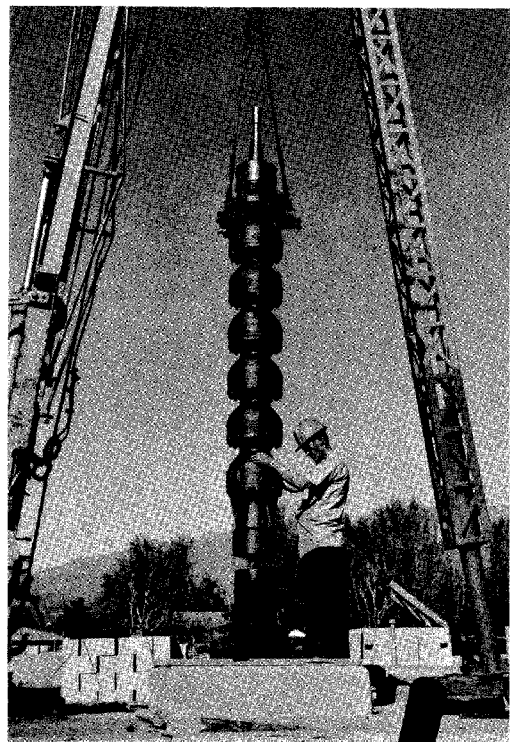
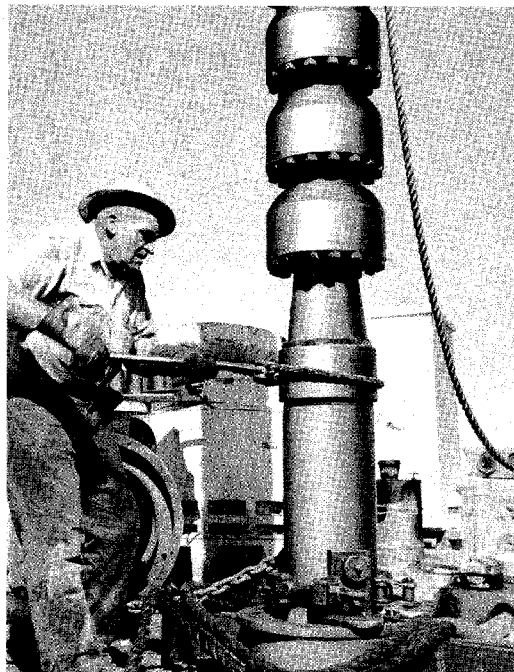
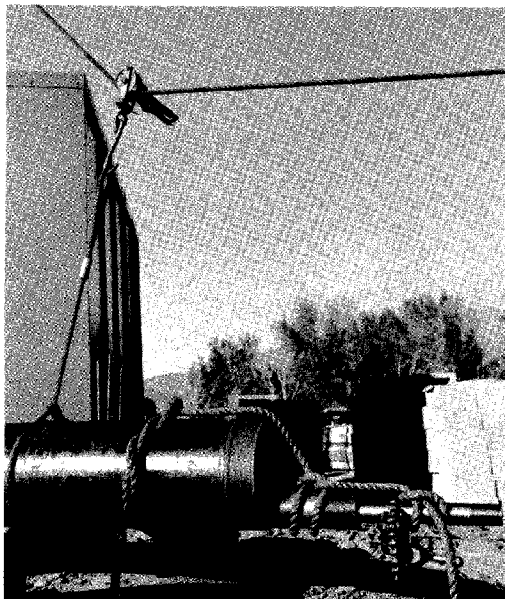

Fig. 7-2. Bowl Unit Suspended Over Suction Pipe.
Fig. 7-3. Installing The Bowl Unit On The Suction Pipe.
Fig. 7-5. Shaft And Tube Tied To Column. Dragline And Traveling Block Attached To Lower End Of Column By Means Of Sling.
tor clamp and to the hoist hook as before. When hoisting the bowl unit the lower end should be guided by a dragline (sand line) which is pulled by the hoist. The dragline may be passed through a pulley (traveling block) hooked onto a sling which is wrapped around the bowl unit. (This arrangement is shown in Fig. 7-5 applied to a column pipe.) If a power-operated dragline is not available, the lower end must be guided manually to prevent dragging and possible damage.
Hoist the bowl unit directly over the top of the suction pipe. (See Fig. 7-2.) Lubricate the threads at the upper end of the suction pipe with thread compound or engine oil. Carefully lower the bowl unit until the threads can be engaged by hand. Use chain tongs as shown in Fig. 7-3 to complete the joint.
1. Securely fasten an elevator clamp to the bowl unit just below the column coupling. Attach a sling to the elevator clamp and pass the looped end over the hoist hook. (See Fig. 7-2.) The lower end of the suction pipe should be guided by a dragline (sand line) which is pulled by the hoist. The dragline may be passed through a pulley (traveling block) hooked onto a sling which is wrapped around the suction pipe. (This arrangement is shown in Fig. 7-5 applied
D. When hoisting the column section, the lower end should be guided by a dragline (sand line) which is pulled by the hoist. A traveling block for the dragline may be clamped to the lower end of the column section. (See Fig. 7-5.) Take care that the clamp screw does not bear against the threads. If a power-operated dragline is not available, the lower end must be guided manually. Hoist the column section over the well.